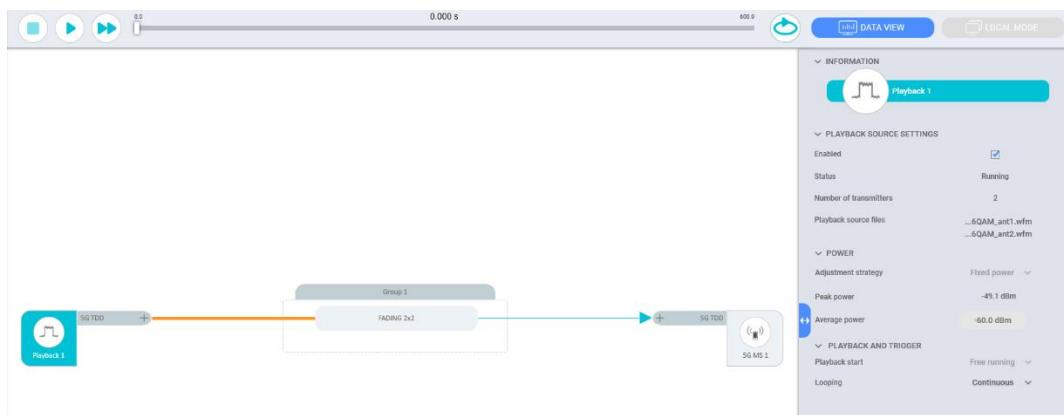

Figure 233. Waveform playback emulation
2. Build and run emulation, emulation opens to Running Graph as shown in Figure 233